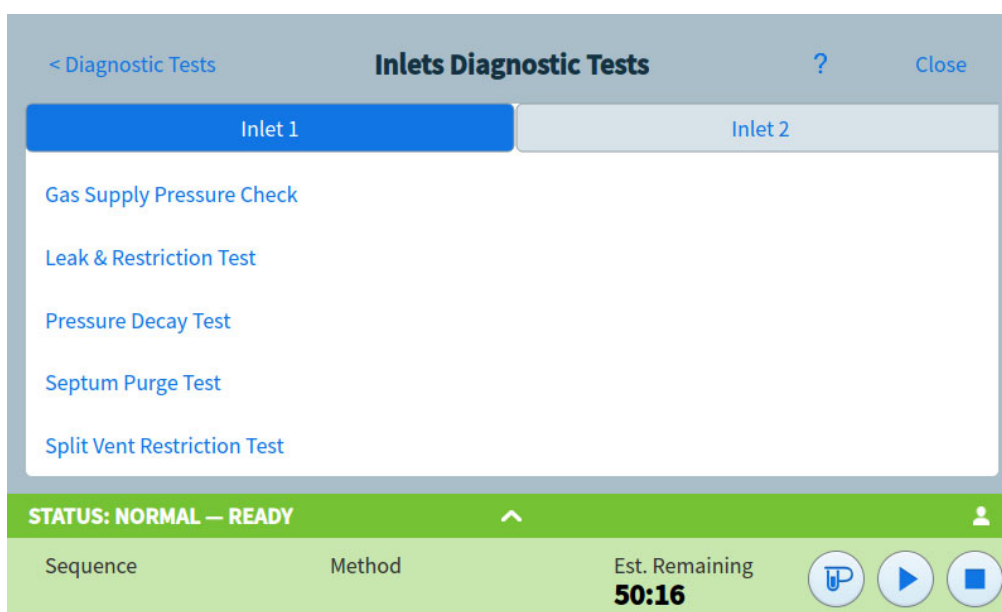

Figure 33. Inlet Diagnostic Tests page
- 3 Select **Inlets**, **Detectors**, or another link, as desired. The corresponding page will appear. For example, selecting **Inlets** brings up the Inlet Diagnostic Tests page. See **Figure 33**.